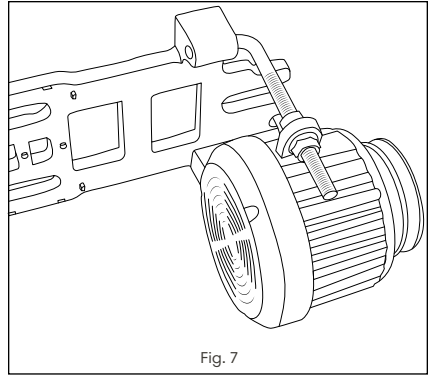

Fig. 7
- Ensure the underside of the sewing machine table is clean and free from obstructions (Fig. 7).